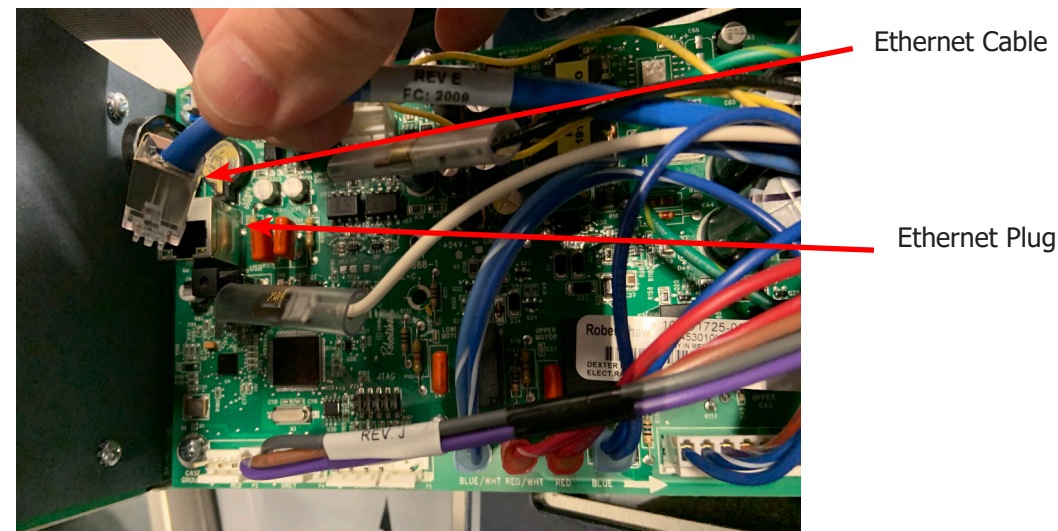

Figure 6
21. The control tray for the dryer should be unlocked and pulled forward to reveal the connector on the front of the long board mounted to the base of the control (Figure 6). Once the control tray is pulled forward, retrieve the cable that routes to your Ethernet switch and connect the cable to the connector on the front of the control board (Figure 9)